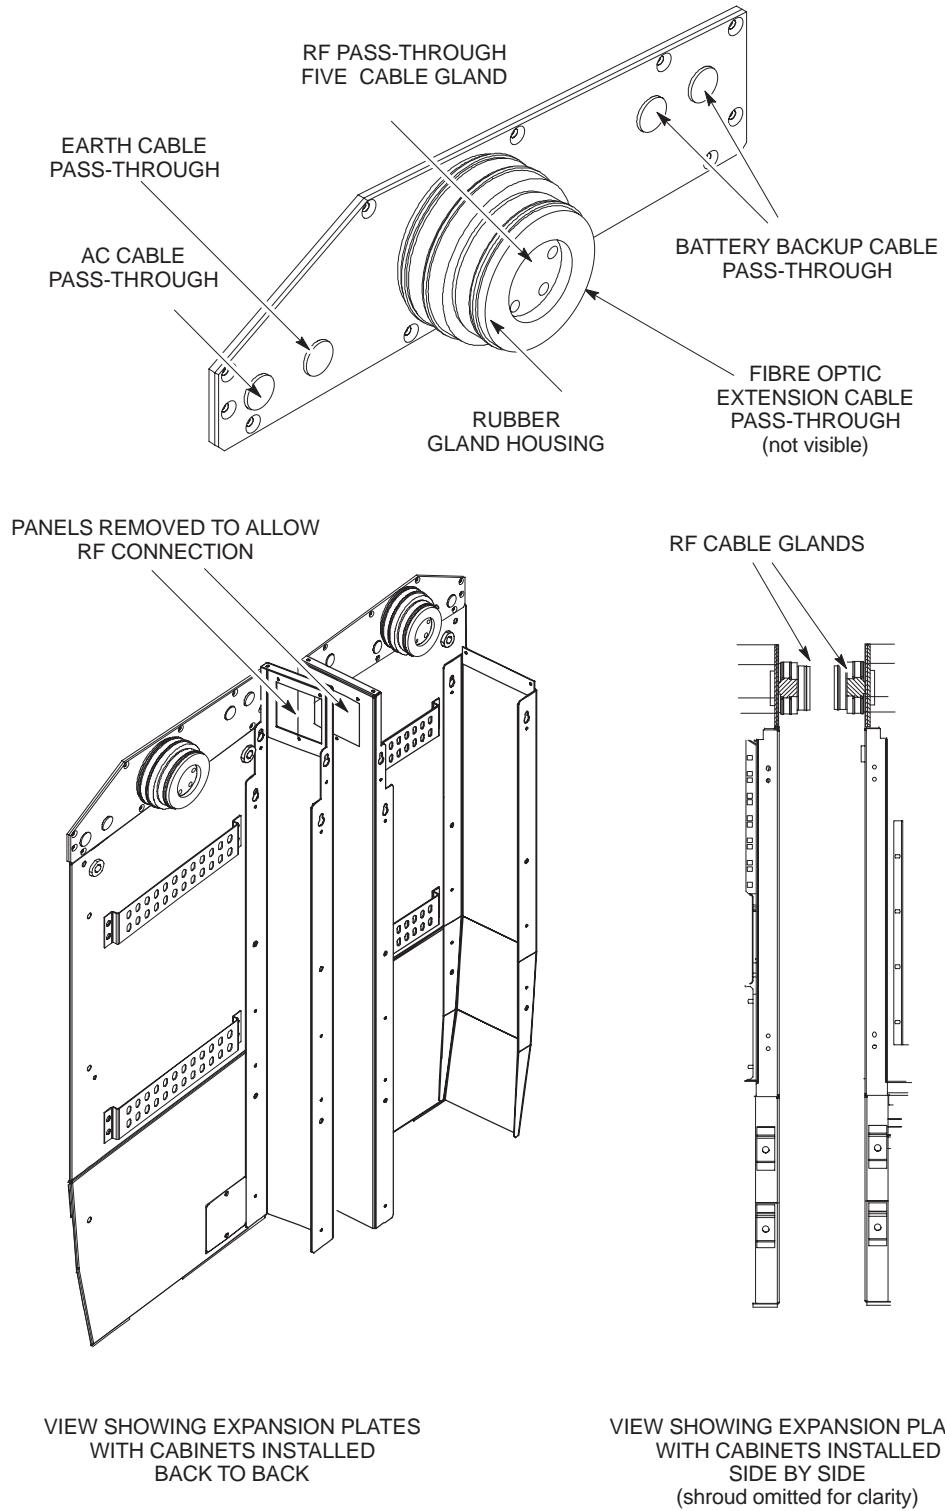

Figure 4-7 BTS cabinet expansion plate
8. Fit rubber housing around left cable gland and insert into left side expansion plate, as shown in Figure 4-7 secure with two hose clips. Repeat for right side gland.
Figure 4-7 shows the BTS cabinet expansion plate and two views showing the recommended installation configurations.